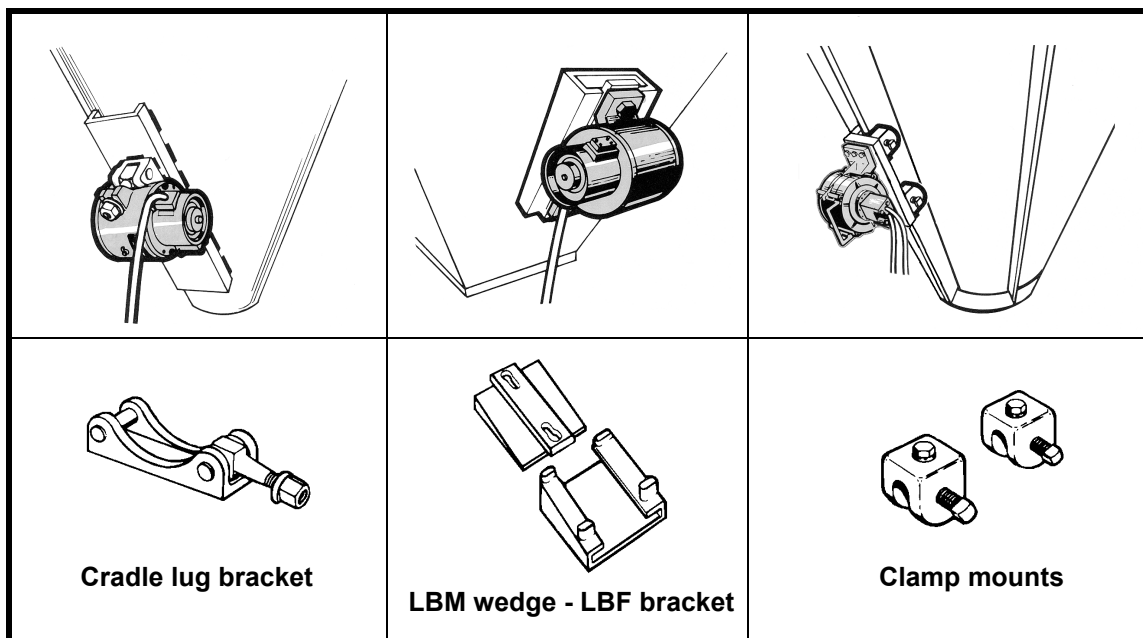

Figure 8. Typical Brute® Vibrator Mounts
4. If using cradle lug bracket or LBF mount, weld onto structure. (See Figure 8.)